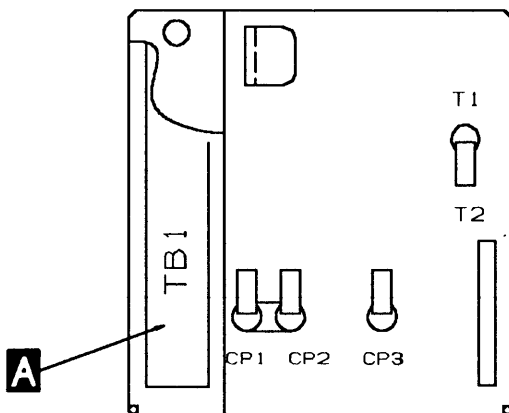

Figure 5-119. Phases
4. **Check** for power not present at PS type 6 TB1-6, 10, 14, **A** with a CE meter, using ground as reference, see Figure 5-119.